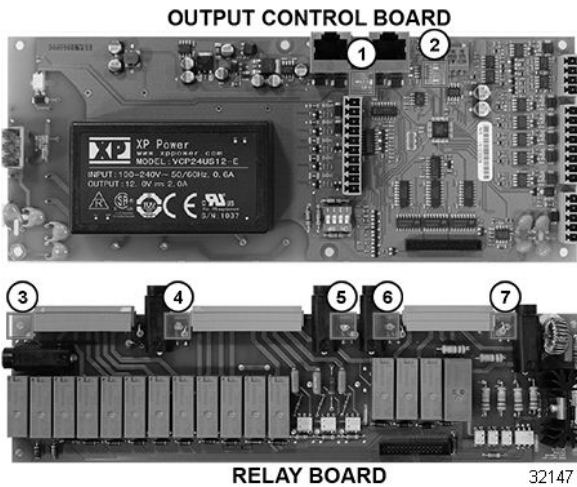

Fig. 113
The output control board has a power indicator LED (1, Fig. 113) and a pair of communication indicator LEDs (2, Fig. 113). The power indicator LED is ON when supply voltage is applied to the output control assembly. The communication LEDs flash when the output control assembly is communicating with the touch panel / display assembly.
- Fuse F4 LED (3, Fig. 113) is ON if F4 is good.
- Fuse F5 LED (4, Fig. 113) is ON if fuse F5 is good.
- Fuse F1 LED (5, Fig. 113) is ON if fuse F1 is good.
- Fuse F2 LED (6, Fig. 113) is ON if fuse F2 is good.
An additional LED is provided (7, Fig. 113), however it does not turn ON in this configuration.